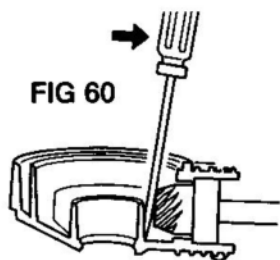

FIG 60
6. Using a screwdriver, lever pinion firmly back onto bearing locating screw and tighten nut (Fig. 60 & 61).